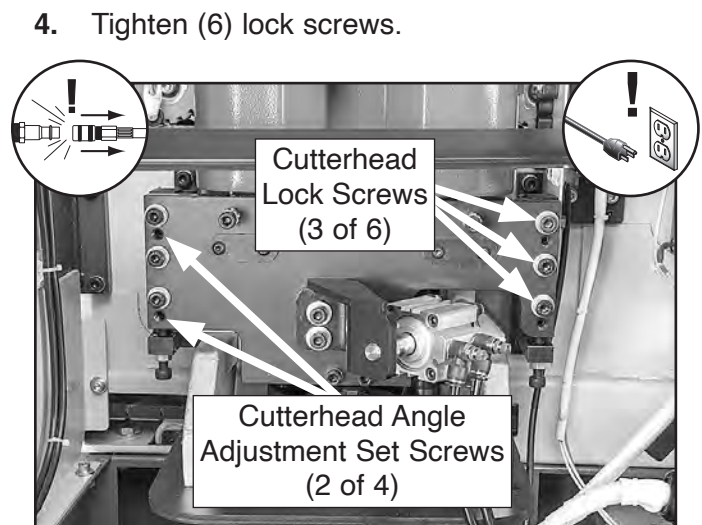

Figure 82. Location of cutterhead lock and angle adjustment screws.
2. Loosen (6) cutterhead height lock screws (see **Figure 82**).
3. Rotate upper adjustment set screws to adjust top of cutterheads, and lower adjustment set screws to adjust bottom of cutterheads (see **Figure 82**).